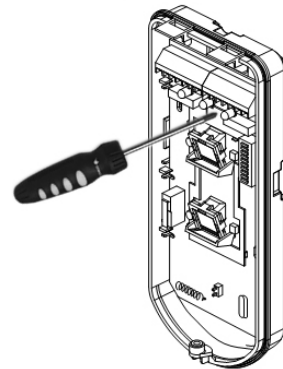

**Figure 7**
4. Secure external base to swivel with two screws fastened through knockouts S1 and S2 (Figure 7).
5. Insert the supplied angle locking screw from the external base through the angle locking screw knockout S3 on the external base to the standard swivel (Figure 7).
When marks on the two movable parts are aligned (Figure 7), the Standard Swivel is in 0° vertical /horizontal position. Each click from this position represents shifting of 5° in vertical / horizontal position.